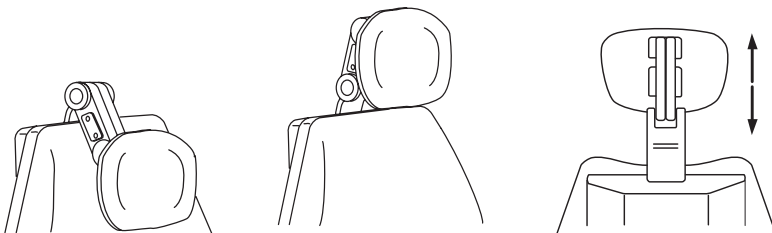

Fig. 4-2 Headrest Adjustment
4) Articulating twin axis prosthetic headrest adjustments (037) (See Fig. 4-2.)